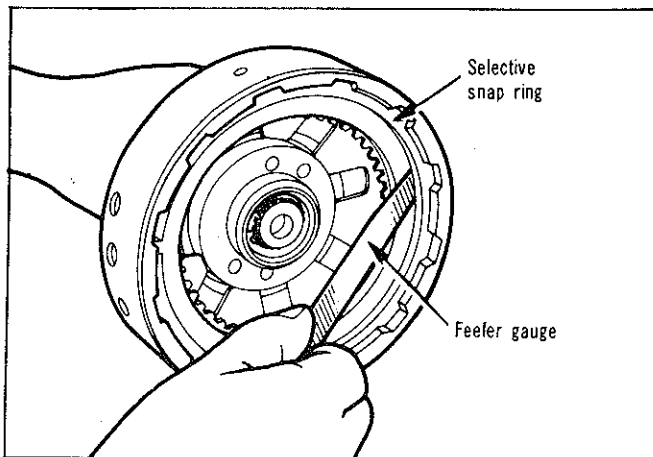

Fig. 54—Measuring rear clutch plate clearance
(5) Install inner pressure plate in clutch retainer with raised portion of plate resting on the spring.
(6) Lubricate all clutch plates, install one lined plate followed by a steel plate until all plates are installed. Install outer pressure plate and selective snap ring.
(7) Measure rear clutch plate clearance by having an assistant press down firmly on outer pressure plate, then insert a feeler gauge between the plate and snap ring (Fig. 54).